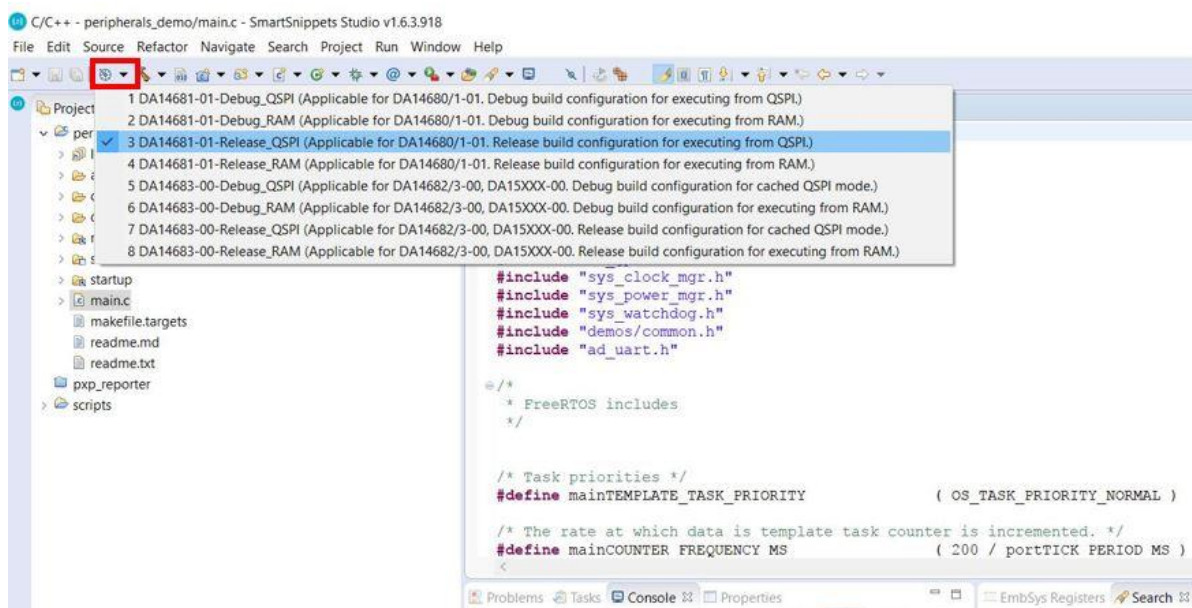

Figure 19: Selecting the build mode to be programmed
1. Select the project folder and click on the icon as shown **Figure 19** and make active the build mode that you want to be programmed to the QSPI Flash memory.